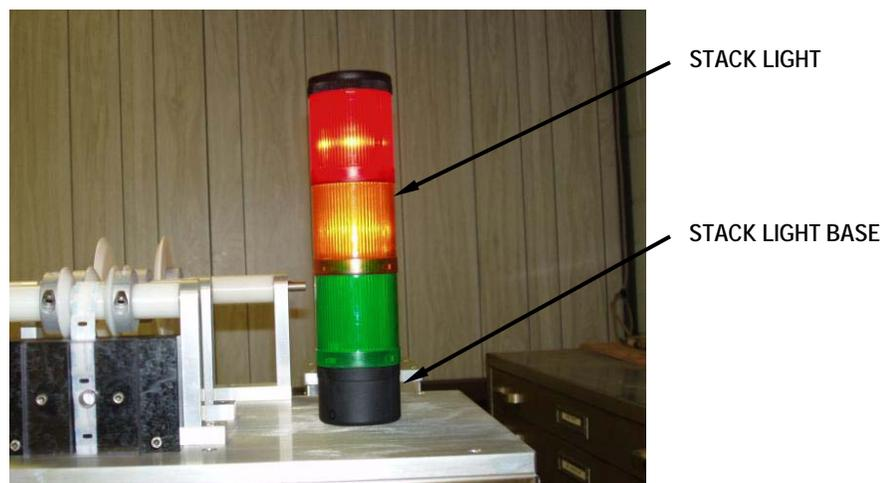

Figure 3.4
- ❑ If the machine comes with a Stack Light (fig 3.4), which was removed for shipping, install it now. Align it correctly with the connectors in the base. Press down to snap it together.